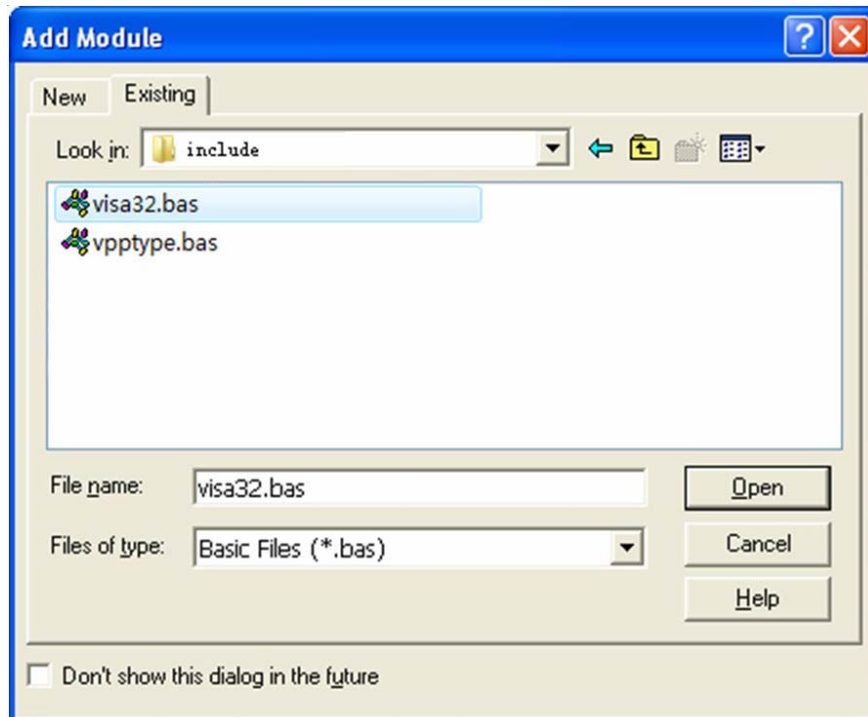

Figure 4-2-1
2. Choose **Project-> Add Module->Existing**; find the **visa32.bas** file in the Add Module under the path of NI-VISA: C:\Program Files\IVI Foundation\VISA\WinNT\include, and then add it. See figure 4-2-1.